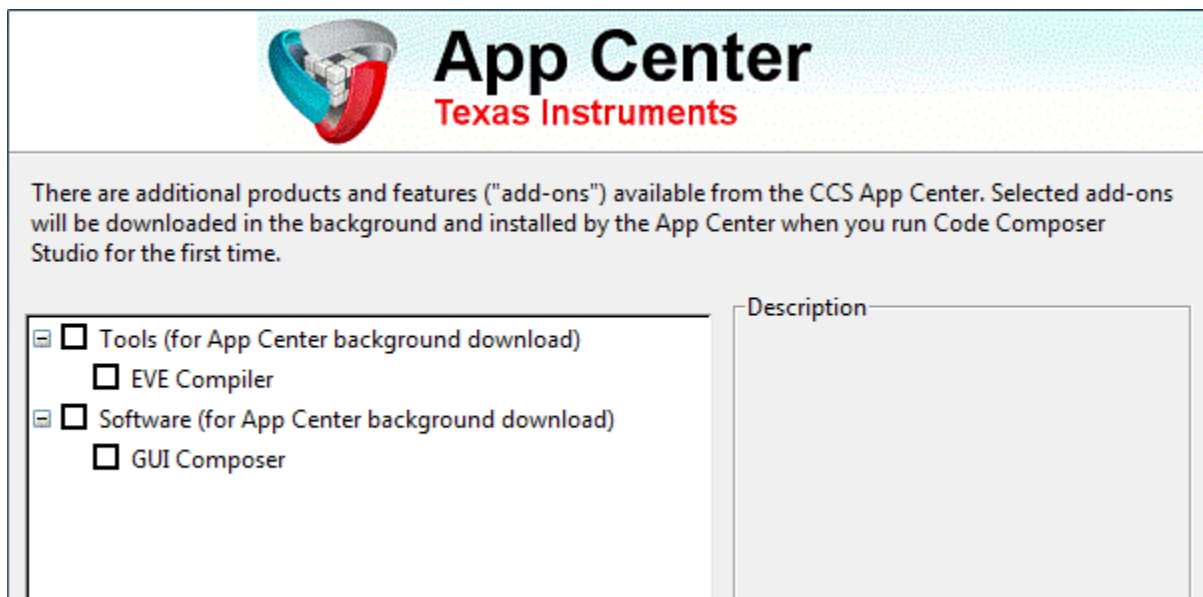

Figure 20, App Center Options
- h. No App Center options are required (Figure 20). Press Next.